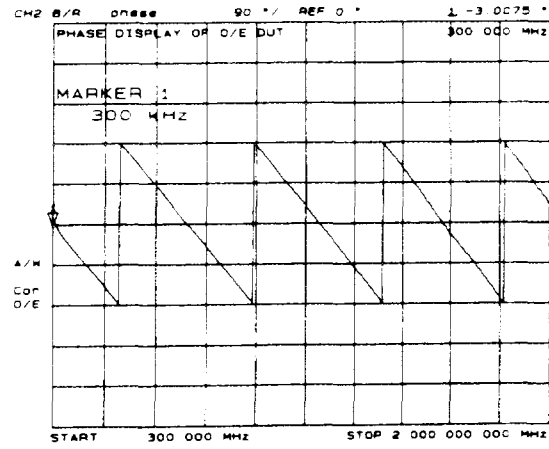

Figure 3-6. Phase Response of O/E (photo diode) Device Under Test
- 7 Insert the O/E device under test into the system in place of the receiver. Figure 3-6 shows the phase response of the diode receiver.